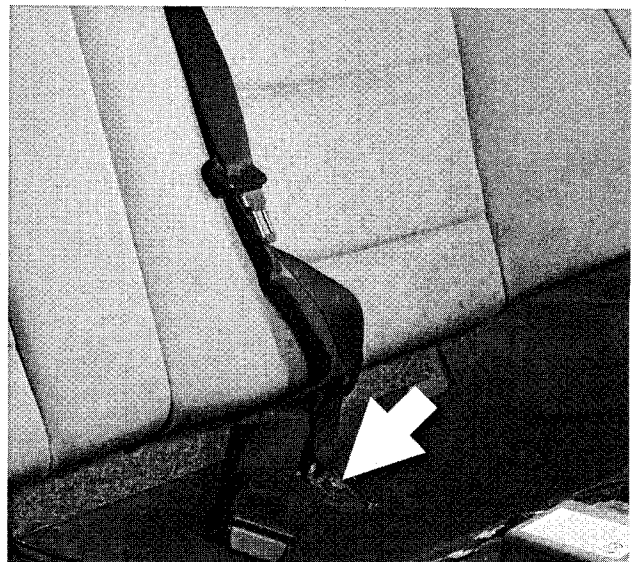

Fig. 7. Rear seat belt anchor bolt under rear seat cushion (arrow).
2. Remove bottom seat belt anchor bolts. See Fig. 7.